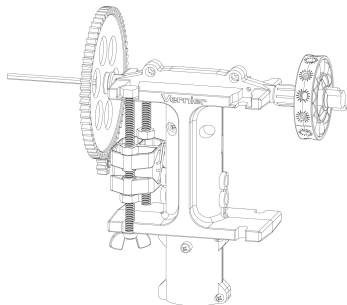

Figure 5
5. Move your generator up or down by adjusting the hex nuts so that the pinion gear meshes with the gear on the driveshaft (see Figure 5).